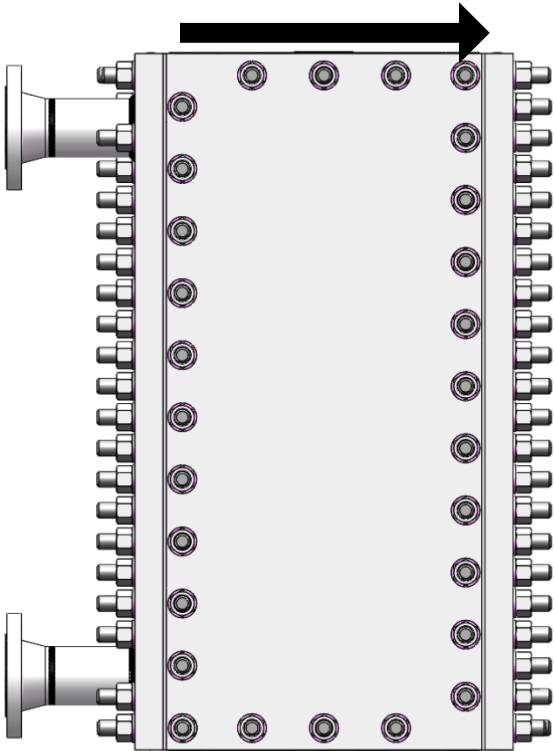

Figure 17
- Pre-tighten all nuts of “circling around the top of the unit” with impact wrench (figure 17 & 18).